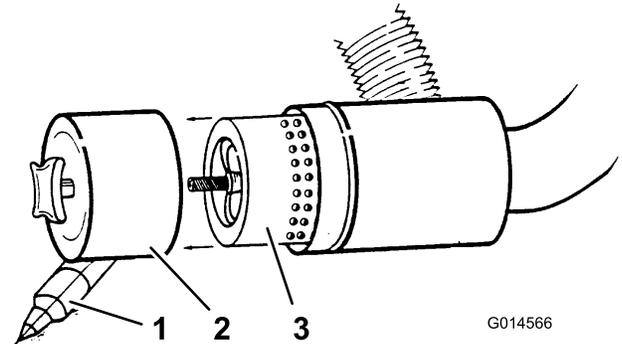

Figure 51
Service the primary air cleaner filter only when the service indicator (Figure 51) requires it. Changing the air filter before it is necessary only increases the chance of dirt entering the engine when the filter is removed.
3. Remove and replace the filter (Figure 51).